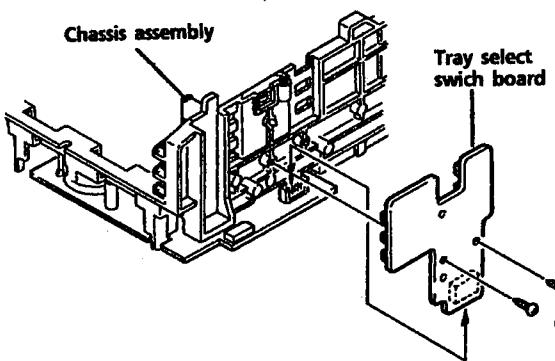

Fig. 33
5. Remove 2 screws ④ securing the tray select switch board. (See Fig. 33.)